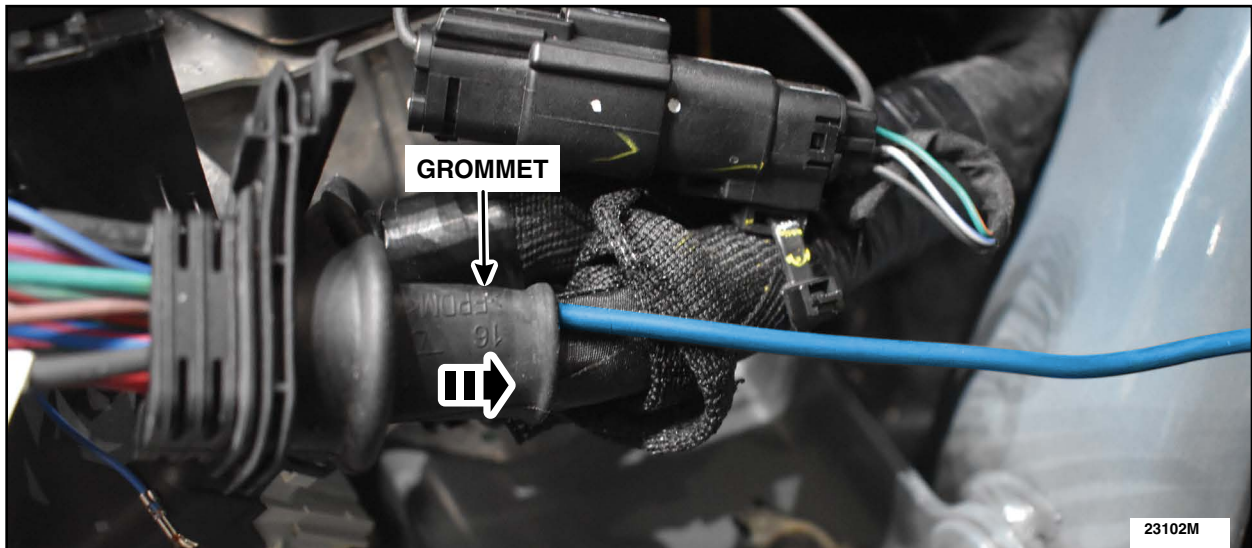

FIGURE 12
15. Following the wire bundle, pass the new circuit through the grommet carefully. The new terminal must be positioned under the gray lever. See Figure 12.